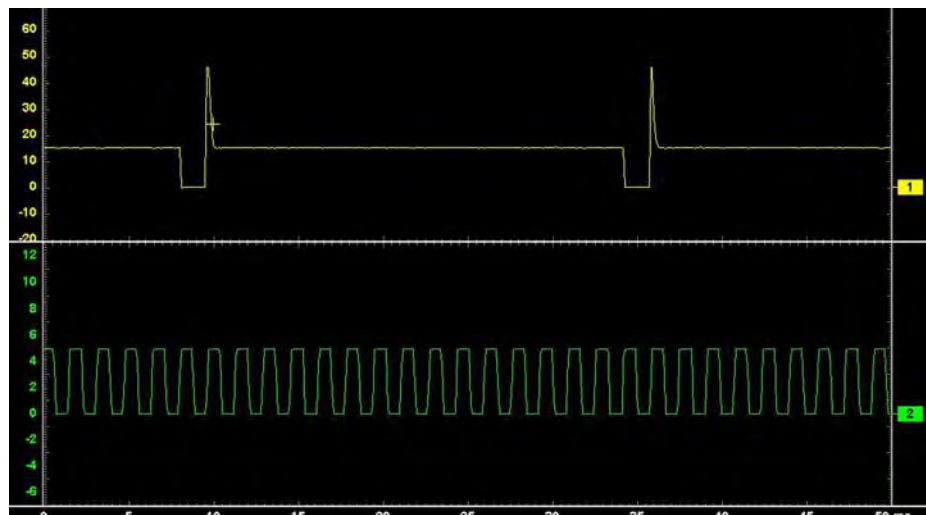
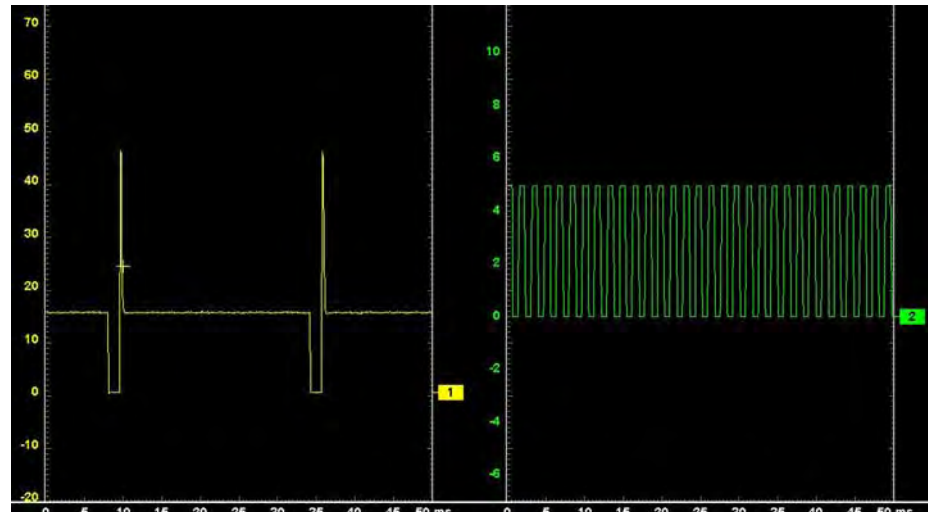

Figure 8-20 Sample 2 Windows horizontal display
Figure 8-21 Sample 2 Windows vertical display
- **2 windows**—shows two separate traces in two ways: horizontal, one below another (Figure 8-20) or vertical, side-by-side (Figure 8-21)